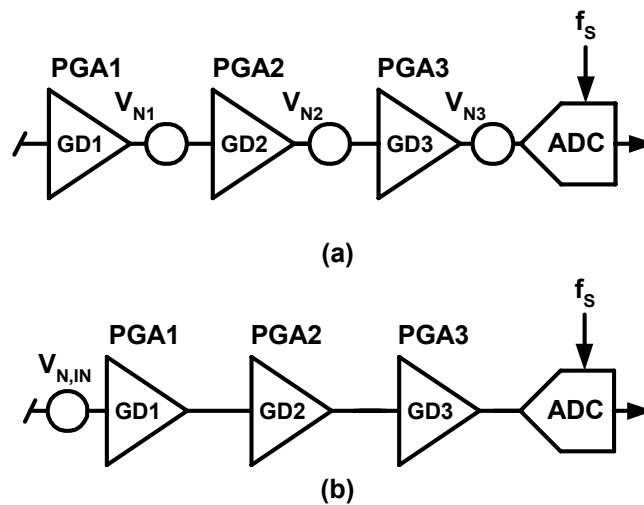
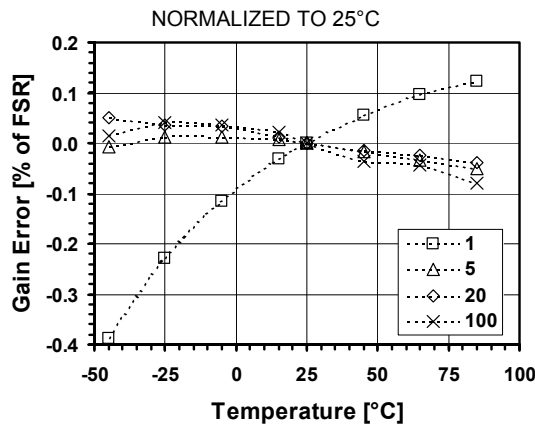

Figure 16-18 (a) Simple noise model for PGAs and ADC and (b) total input referred noise
Figure 16-19 Gain error vs. temperature for different PGA gains
- (1) Gain defined as overall PGA gain $GD_{TOT} = GD_1 \cdot GD_2 \cdot GD_3$. Maximum input voltage is given by: $V_{IN,MAX} = \pm(V_{REF}/2) \cdot (OSR/OSR+1)$.
- (2) Offset due to tolerance on $GDoff_2$ or $GDoff_3$ setting. For small intrinsic offset, use only ADC and PGA1.
- (3) Measured with block connected to inputs through AMUX block. Normalized input sampling frequency for input impedance is $f_s = 512kHz$. This figure must be multiplied by 2 for $f_s = 256kHz$, 4 for $f_s = 128kHz$. Input impedance is proportional to $1/f_s$.
- (4) Figure independent from PGA1 gain and sampling frequency f_s . See model of Figure 16-18(a). See equation Eq. 21 to calculate equivalent input noise.
- (5) Figure independent on PGA2 gain and sampling frequency f_s . See model of Figure 16-18(a). See equation Eq. 21 to calculate equivalent input noise.
- (6) Figure independent on PGA3 gain and sampling frequency f_s . See model of Figure 16-18(a) and equation Eq. 21 to calculate equivalent input noise.
- (7) Resolution is given by $n = 2 \cdot \log_2(OSR) + \log_2(N_{ELCONV})$. OSR can be set between 8 and 1024, in powers of 2. N_{ELCONV} can be set to 1, 2, 4 or 8.
- (8) If a ramp signal is applied to the input, all digital codes appear in the resulting ADC output data.
- (9) Gain error is defined as the amount of deviation between the ideal (theoretical) transfer function and the measured transfer function (with the offset error removed). (See Figure 16-19)
- (10) Offset error is defined as the output code error for a zero volt input (ideally, output code = 0). For ± 1 LSB offset, N_{ELCONV} must be ≥ 2 .
- (11) INL defined as the deviation of the DC transfer curve of each individual code from the best-fit straight line. This specification holds over the full scale.
- (12) DNL is defined as the difference (in LSB) between the ideal (1 LSB) and measured code transitions for successive codes.
- (13) Figures for Gains = 1 to 100. PSRR is defined as the amount of change in the ADC output value as the power supply voltage changes.
- (14) Conversion time is given by: $T_{CONV} = (N_{ELCONV} \cdot (OSR + 1) + 1) / f_s$. OSR can be set between 8 and 1024, in powers of 2. N_{ELCONV} can be set to 1, 2, 4 or 8.
- (15) PGAs are reset after each writing operation to registers **RegAcCfg1-5**. The ADC must be started after a PGA or inputs common-mode stabilisation delay. This is done by writing bit Start several cycles after PGA settings modification or channel switching. Delay between PGA start or input channel switching and ADC start should be equivalent to OSR (between 8 and 1024) number of cycles. This delay does not apply to conversions made without the PGAs.
- (16) Nominal (maximum) bias currents in PGAs and ADC, i.e. **IB_AMP_PGA[1:0] = '11'** and **IB_AMP_ADC[1:0] = '11'**.
- (17) Bias currents in PGAs and ADC set to 3/4 of nominal values, i.e. **IB_AMP_PGA[1:0] = '10'**, **IB_AMP_ADC[1:0] = '10'**.
- (18) Bias currents in PGAs and ADC set to 1/2 of nominal values, i.e. **IB_AMP_PGA[1:0] = '01'**, **IB_AMP_ADC[1:0] = '01'**.
- (19) Bias currents in PGAs and ADC set to 1/4 of nominal values, i.e. **IB_AMP_PGA[1:0] = '00'**, **IB_AMP_ADC[1:0] = '00'**.
The simple noise model of Figure 16-18(a) is used to estimate the equivalent input referred rms noise $V_{N,IN}$ of the acquisition chain in the model of Figure 16-18(b). This is given by the relationship:
Note: see noise model of Figure 16-18 and equation Eq. 21.
Figure 16-19 shows gain error drift vs. temperature for different PGA gains. The curves are expressed in % of Full-Scale Range (FSR) normalized to 25°C.